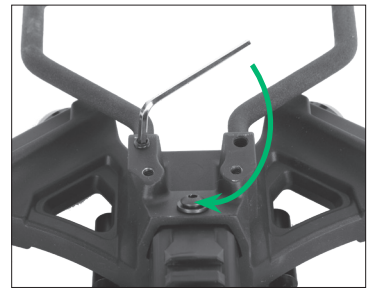

FIGURE 6
- 2a** Attach the stirrup onto the riser by using the 2 stirrup mounting screws (M) using the small hex wrench. (Fig. 6)